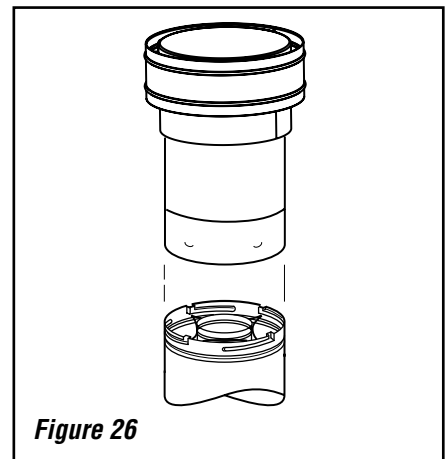

Figure 26
K. Install the vertical termination - The final Step involves installation of the SV4.5CGV-1 Vertical Termination. Extend the vent sections to the height as shown in the "Vertical vent termination section" (Page 6, Figure 4B). The SV4.5CGV-1 Vertical Termination (Figure 26) can be installed in the exact same fashion as any other Secure Vent™ section. Align the termination over the end of the previously installed section, adjusting the radial alignment until the four locking dimples of the termination are aligned with the inlets of the four incline channels of the last vent section. Push the termination down until it fully engages, then twist the termination clockwise running the dimples down and along the incline channels until they are seated at the end of the channels.